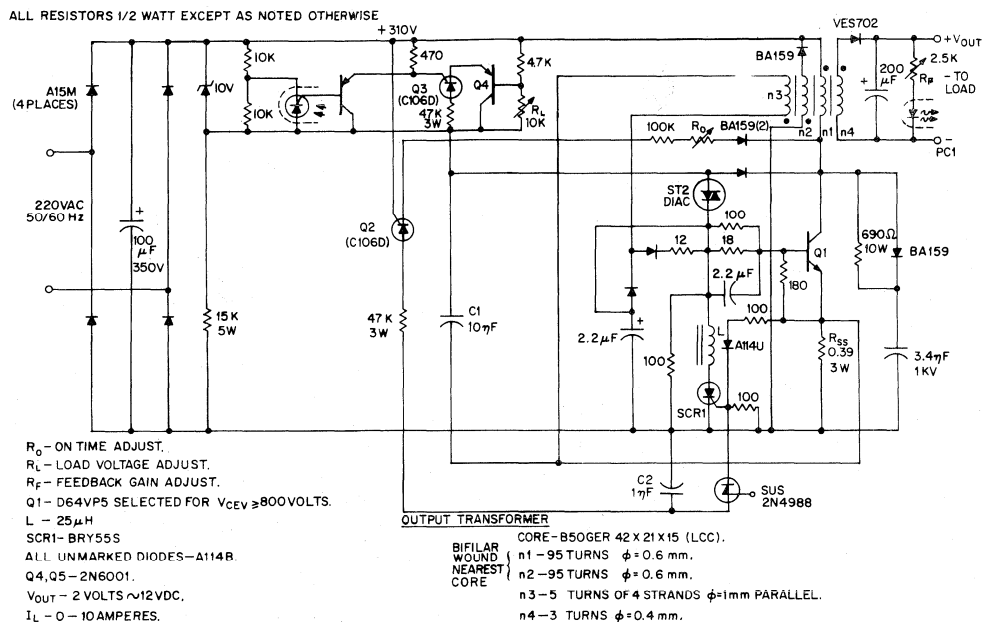

Fig. 156 - 12V switching power supply.
**Switching Power Supply with Optocoupler Isolated Constant Voltage Feedback** — By virtue of its PNP structure, which is that of a thyristor, the output stage of an H11C photo thyristor coupler may also be connected as a bilateral (symmetrical) PNP or as a unilateral (conventional) PNP transistor. Some suggested uses of the device in the former mode are outlined in the opening chapters of this Manual. Often overlooked, however, is the fact that ordinary PNP transistor optocouplers are rare and that concomitantly the H11C photo thyristor coupler can fill this function in sockets demanding PNP logic. Such a situation is illustrated in Figure 156, a low voltage high current output, switching dc power supply is running off the 220 Volt ac input. In this circuit, an ST2 diac relaxation oscillator ( $Q_3$ ,  $C_1$ , and the diac) initiates conduction of the output switching transistor  $Q_1$ , the on-time of which is maintained constant by a separate timing/commutation network consisting of  $Q_2$ ,  $C_2$ , the SUS and SCR 1. Output voltage, consequently, is dependent on duty cycle. To compensate for unwanted variations of output voltage due to input voltage or load resistance fluctuations, an H11C wired as a linear-mode